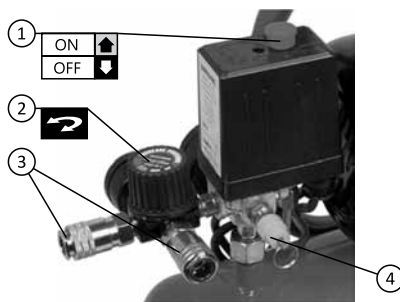

Fig. 4. Regulation of membrane switch startup and adjustment of pressure with reduction valve
4. Open the output valve, put the membrane switch button in the position "ON" (*Fig. 4*) and start the compressor idling for 10 minutes, to make sure that all the moving parts are lubricated enough before the next operation.
6. Pressure of the compressed air at the output may be adjusted by the reduction valve. Pull up the roller of the reducing valve and revolve it clockwise to increase the pressure (*Fig. 4*).